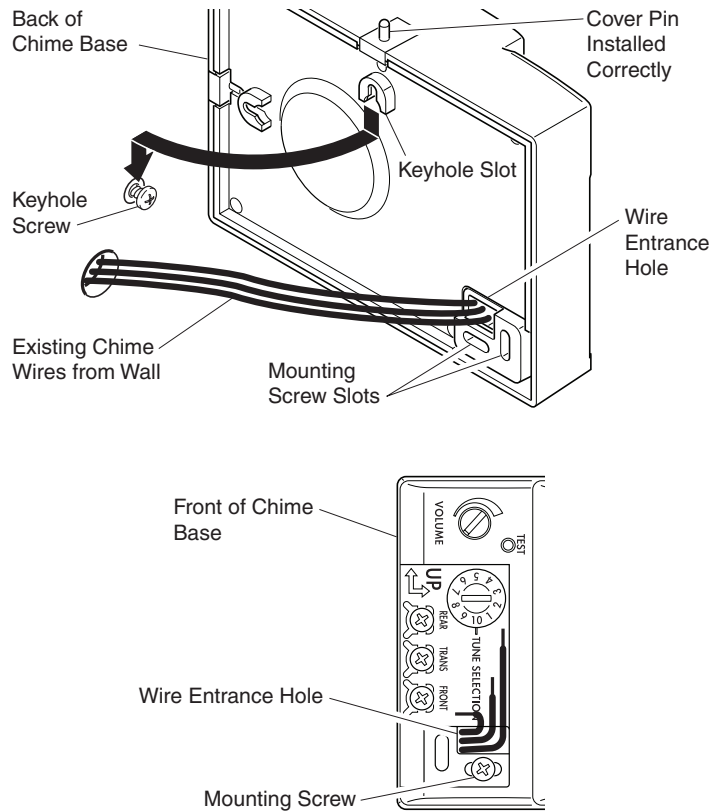

Figure 2 - Mounting Chime Base to Wall
9. Mount chime base to wall using screws and anchors provided (see Figure 2). (Drill 7/32" diameter pilot hole for wall anchors.)